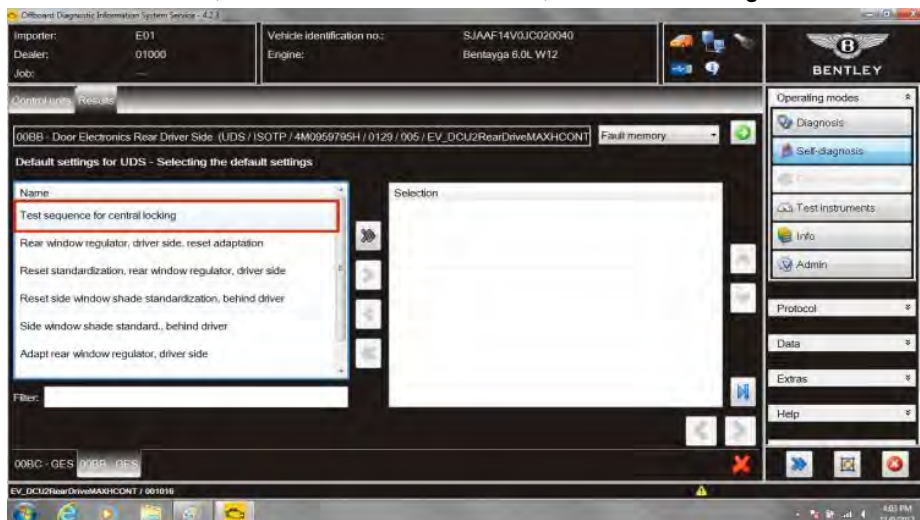

Figure 9
19. In *Default settings for UDS* double click *Test sequence for central locking* to add to *Selection* box (see Figure 9)